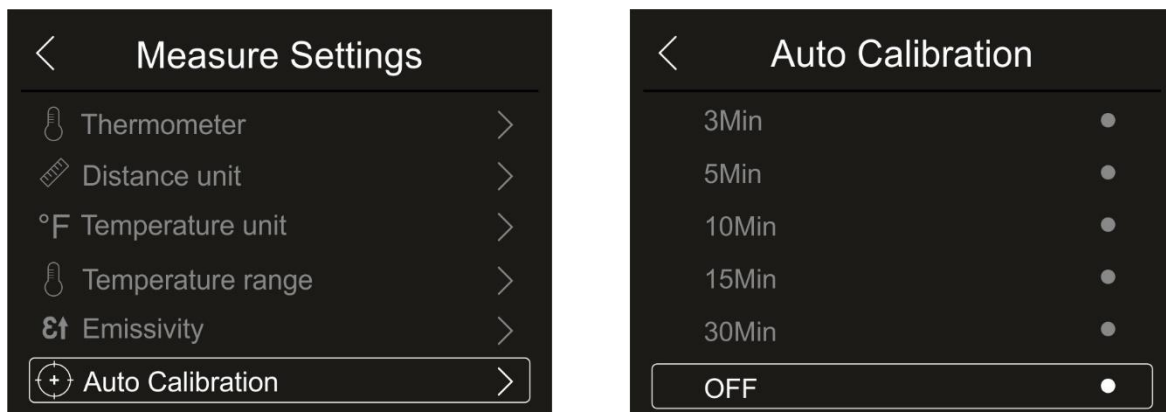

Fig. 29: Auto calibration interval setting menu
1. Touch the item “Auto Calibration” to set the internal auto calibration time. The screen in Fig. 29 – right side appears on the display